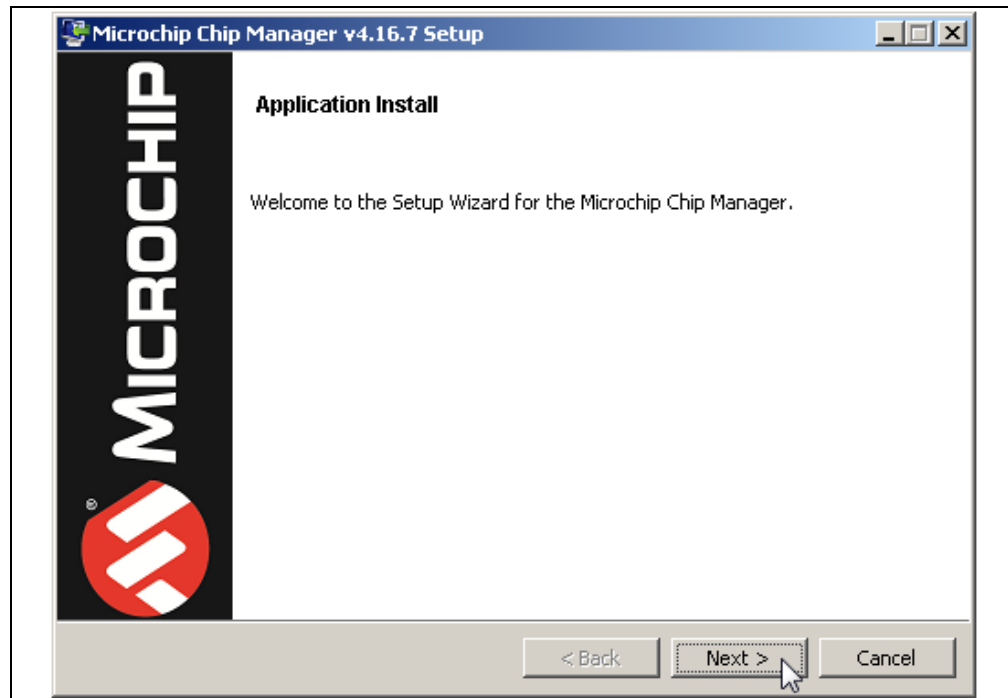

FIGURE 2-2: Application Install Window.
6. After the driver installation is complete, the initial setup screen for the Chip Manager application appears (see Figure 2-2). Click **Next** to start the installation.